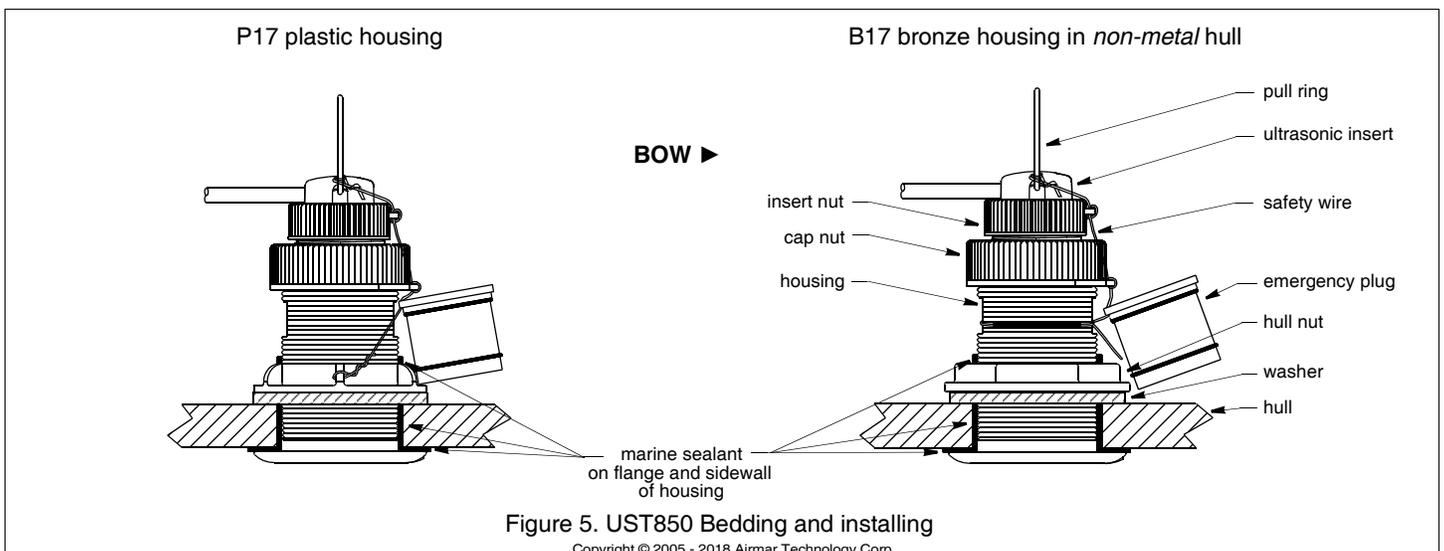

Figure 5. UST850 Bedding and installing
UST850 (Figure 5)
2. Remove the ultrasonic insert from the housing by removing the safety wire from the pull ring and the *insert* nut (Figure 5).
1. Remove the short emergency plug from the safety wire (Figure 5).
5. Secure the short emergency plug with the cap nut. **Hand tighten** only. Do not over tighten. Reattach the safety wire (Figure 5).
5. Reattach the safety wire to prevent the blanking plug from backing out in the unlikely event that the insert/cap nut fails or is screwed on incorrectly (Figure 5).
10. Attach the safety wire to the *short emergency plug*, the *cap* nut, the *insert* nut, and the pull ring to prevent the ultrasonic insert/blanking plug from backing out in the unlikely event that the *insert* nut and/or *cap* nut fails or is screwed on incorrectly (Figure 5).